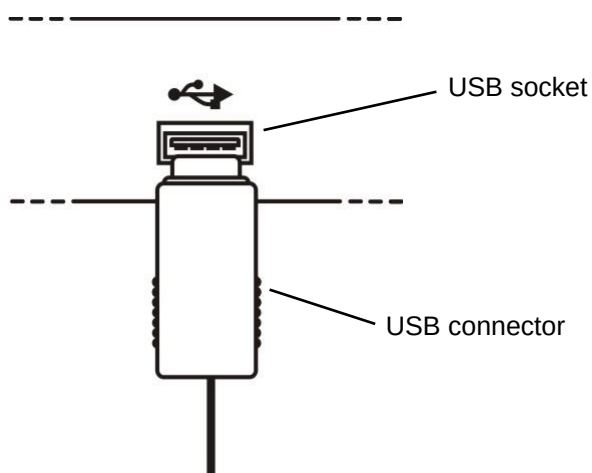

Fig. 2-1
1. Connect a USB cable between the USB socket on the AVL DiTEST HV Safety 2000 and a spare USB socket on the AVL DSS PC, see Fig. 2-1.